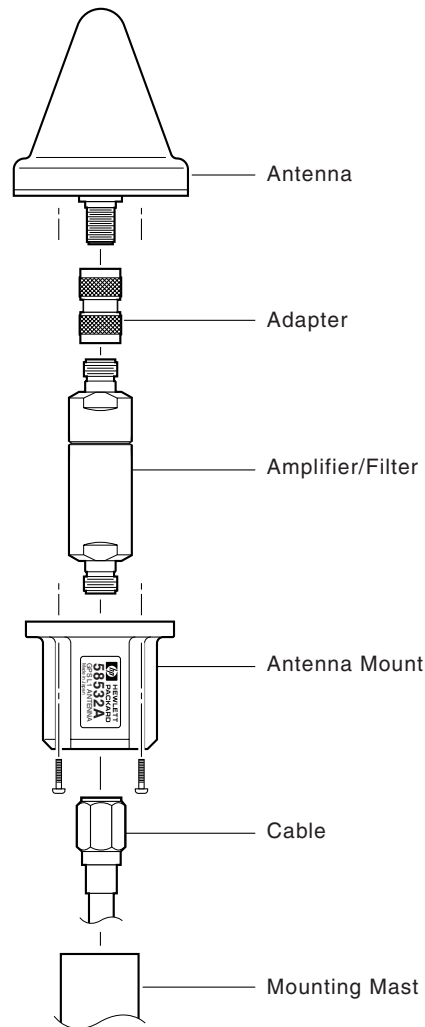

Figure 3. Antenna to Amplifier Assembly Drawing
It is recommended that the line amplifier be placed as close to the antenna as possible. The best location is inside the mounting mast as shown in Figure 3. The 58529A is shaped so it will fit easily inside a mounting mast; otherwise place the amplifier within 10 meters of the antenna in order to minimize the possibility of noise entering the system before signal amplification. Mount the line amplifier so it will not be immersed in, or exposed to, standing water.
4.0 Antenna to Amplifier Assembly Procedure (Refer to Figure 3 while following this procedure.)